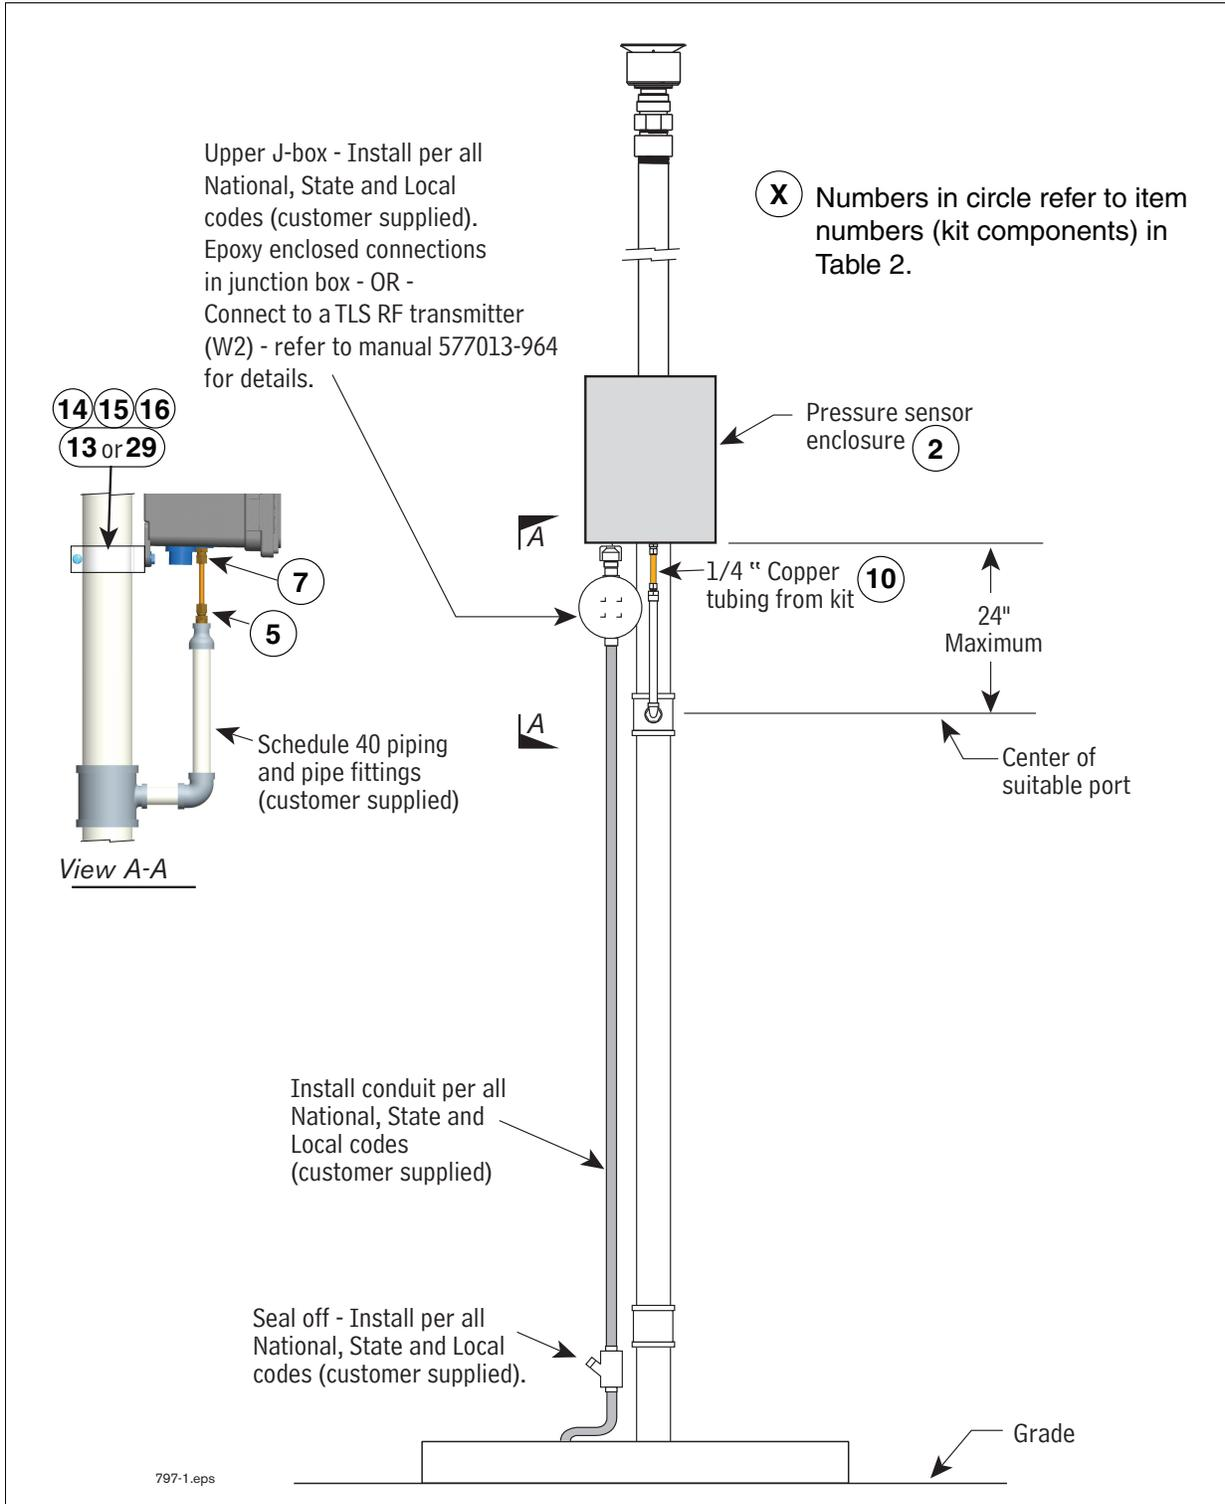

Figure 10. Locating Pressure Sensor Enclosure in Vapor Vent Stack
3. Locate a suitable port in an existing Schedule 40 piping fitting (tee, cross, etc.) or plumb a suitable Schedule 40 pipe fitting (tee, cross, etc.) into the vapor vent stack line (maximum length of copper tubing limited by dimension in Figure 10).
16. Mount the plastic enclosure onto the vapor vent stack or suitable rigid structure ABOVE the vapor vent stack port using two conduit clamps (for 2" or 3" pipe), bolts, nuts, and washers included, or use other customer supplied suitable mounting hardware (Example: Unistrut®). Leave the mounting hardware somewhat loose for later enclosure height adjustment (see Figure 10).
18. Install one 68CA-4-4 male connector (item 5 in Table 2) onto the top of the new pipe (see View A-A, Figure 10).
19. Measure, fabricate, and install ¼" OD copper tubing (item 10 in Table 2) between the bulkhead union and the male connector. Adjust the enclosure vertically on vent pipe to make sure the copper tube is fully inserted into the bulk head union and male connector.
23. When direct wiring to a TLS console, install ½" electrical conduit from the conduit hub in the bottom of the enclosure to the customer supplied weather-proof junction box (see Figure 10). For wireless installations, using the TLS RF, Steps 23 - 27 are not required.
24. Route the cable from the pressure sensor to the junction box under the enclosure. Observing polarity, connect the sensor wiring to the field wiring from console and cap with wire nuts (see Figure 10).